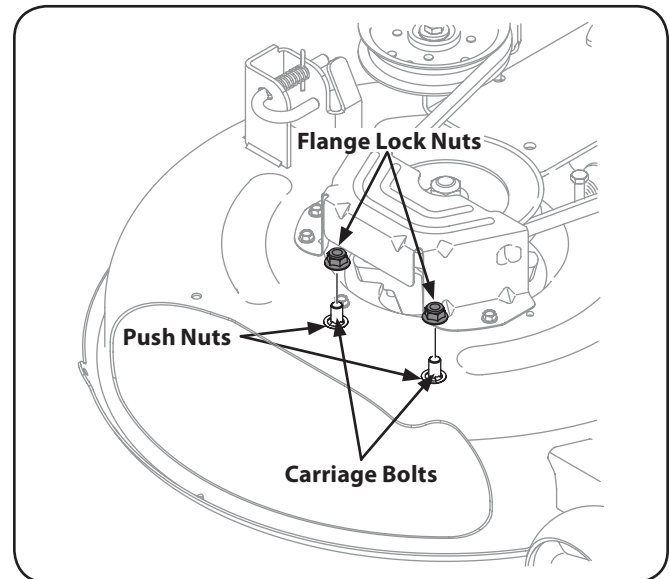

Figure 3-2
2. Remove the flange lock nuts from the deck. Do not remove the push nuts or carriage bolts, leaving them in place will aid in installing the chute. See Fig. 3-2.